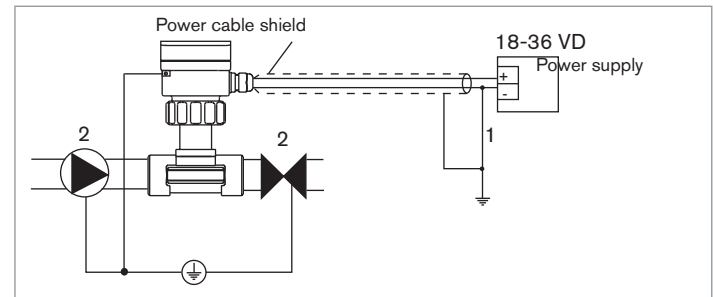

Fig. 14 : Earthing the transmitter
- Connect the negative power supply terminal to the earth to remove the effects of common mode currents. If this connection cannot be made directly, a 100 nF/50 V capacitor can be fitted between the negative power supply terminal and the earth (reference 1 Fig. 14).
- connect the various metal devices to the same earth (valve, pump, etc.) located close to the transmitter (reference 2 Fig. 14).
- insert the metal parts (not provided) inside the plastic pipes, upstream and downstream of the transmitter (reference 2 Fig. 14).
- connect these metal parts to the same earth (Fig. 14).